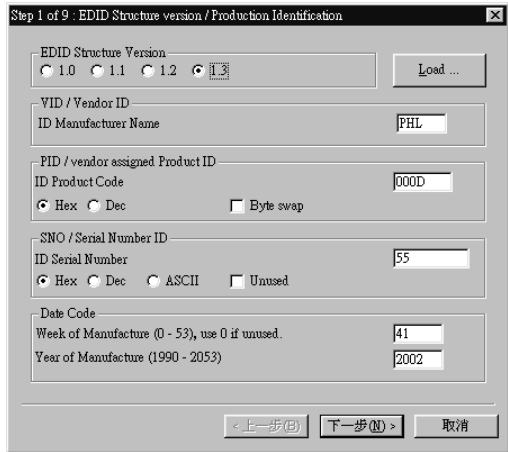

Fig. 14
- 1. Click  (new function) icon from the tool bar, bring up Step 1 of 9 as shown in Fig. 14 . EDID301 DDC application provides the function selection and text change (select & fill out) from Step 1 to Step 9.